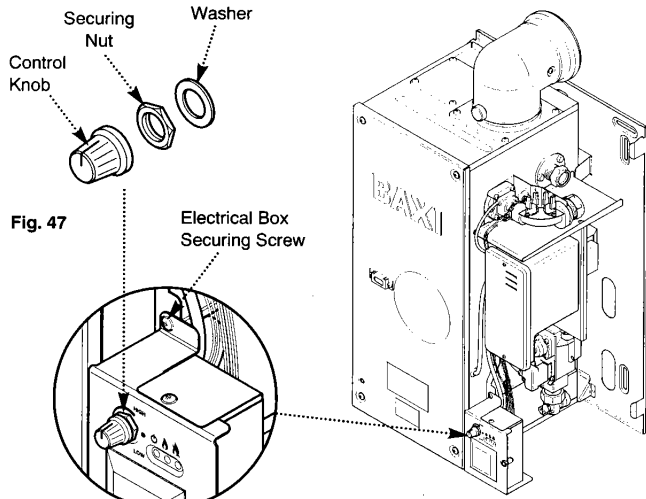

Fig. 47
1. Pull the control knob off the spindle and remove the securing nut and washer (Fig. 47).